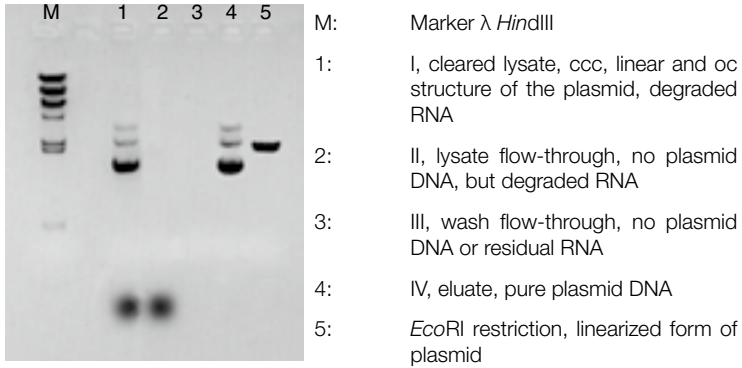

Figure 6 Exemplary analytical check of NucleoBond® Xtra Midi purification samples
The exemplary gel picture (Figure 6) will help you to address the specific questions outlined in the following section more quickly and efficiently.
- Check plasmid content in the cleared lysate (see Figure 6). Use colonies from fresh plates for inoculation and add fresh selective antibiotic to plates and media.
- Too much cell mass was used. Refer to section 5.5–5.7 regarding recommended culture volumes and lysis buffer volumes. Check plasmid content in the cleared lysate (see Figure 6).
- Check plasmid content in the wash fractions (see Figure 6). Keep all buffers tightly closed. Check and adjust pH of Buffer FIL-EF (pH 6.5), ENDO-EF (pH 6.5), WASH-EF (pH 7.0), and ELU-EF (pH 9.0) with HCl or NaOH if necessary.
pH or salt concentration of wash buffer is too low <ul style="list-style-type: none">• Check RNA content in the wash fractions (see Figure 6). Keep all buffers tightly closed. Check pH of Buffer FIL-EF (6.5), EQU-EF (6.5), ENDO-EF (6.5), and WASH-EF (7.0) and adjust with HCl or NaOH if necessary.• Increase wash buffer stringency by adjusting pH of ENDO-EF and WASH-EF to 7.5.